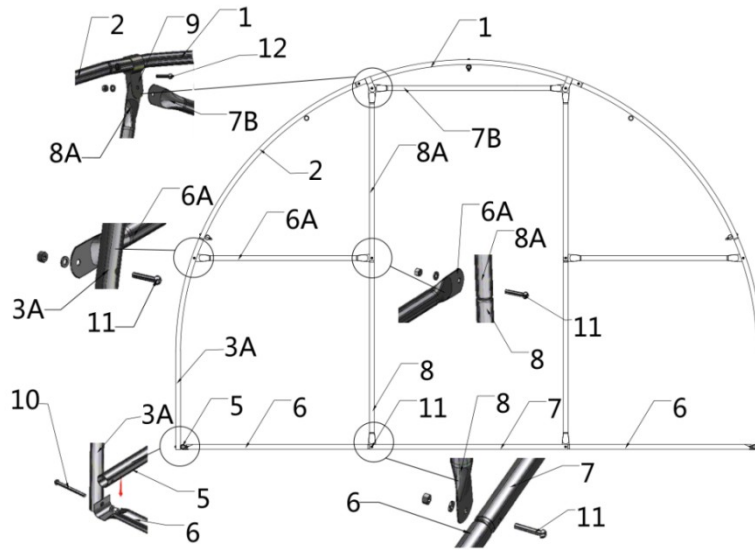

Figure 8
Step 7 : Install the remaining parts on the front truss (figure 8)
- (2) Bottom tension bar (#6)